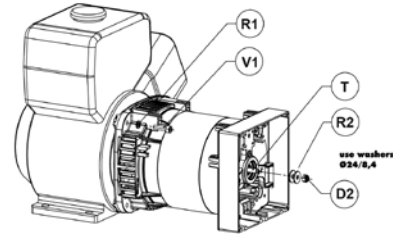

Fig. 1B
- 3 Fasten the complete alternator to the flange using the 4 screws V1 and washers R1 provided (driving torque 25Nm). (fig. 1B).